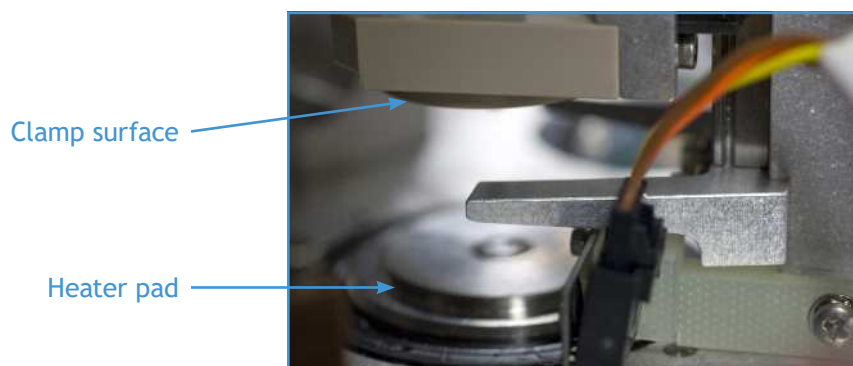

Figure 1-1: Clamp surface and heater pad
1. Using a inspection mirror, check the underside of the clamps located above the processing and collection stage. See Figure 1-1.